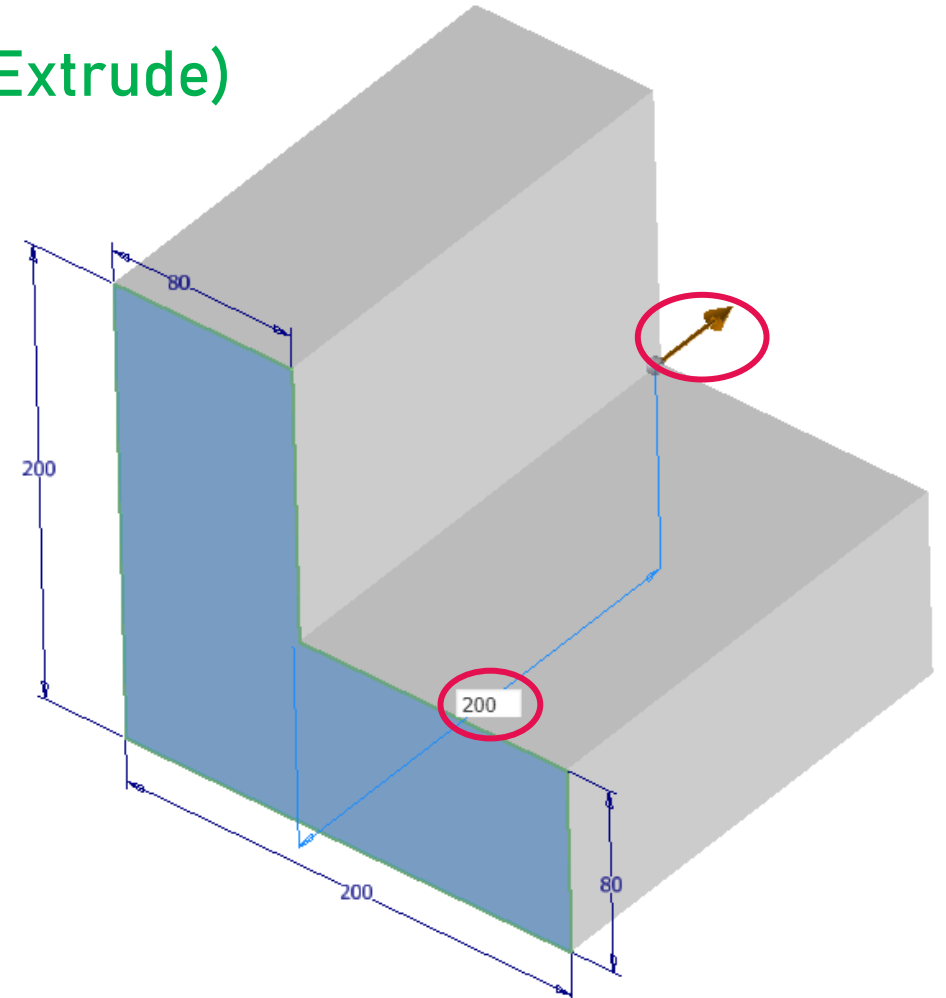

Figure 1.1
2. An extrude properties menu will appear. In behavior section, select direction 'Default'. Enter the value for 'Distance A', 200mm. Optionally you may also enter the value in the flyout box near model as shown in Figure 1.1